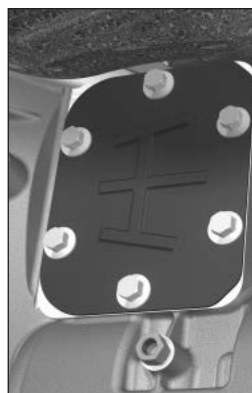
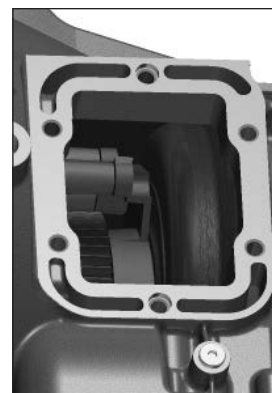

Figure 25
Figure 25a
4. Remove the PTO aperture cover plate and gasket (**Fig. 25 and Fig. 25a**). **DO NOT** discard the gasket. It will be used when installing the adapter on the transmission.